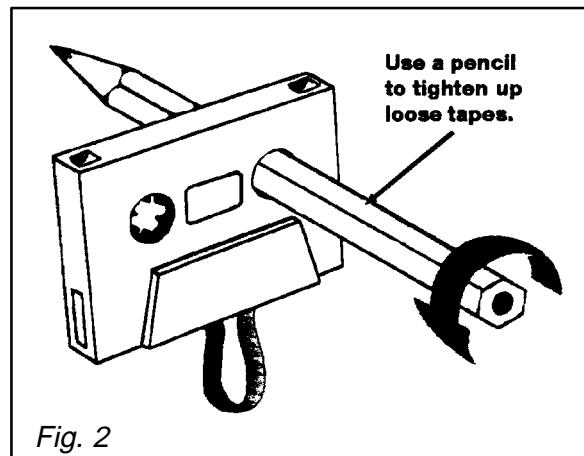

Fig. 2
5. Keep the tape tightly wound as shown in figure 2. Tape speed can be affected by loosely wound tape.